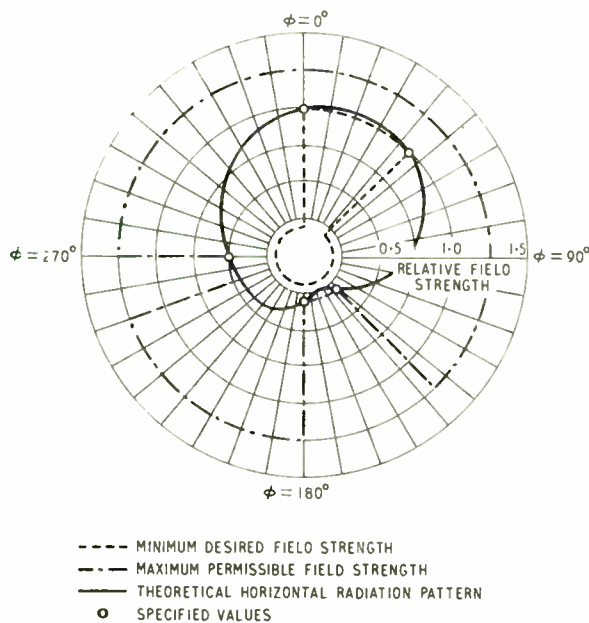
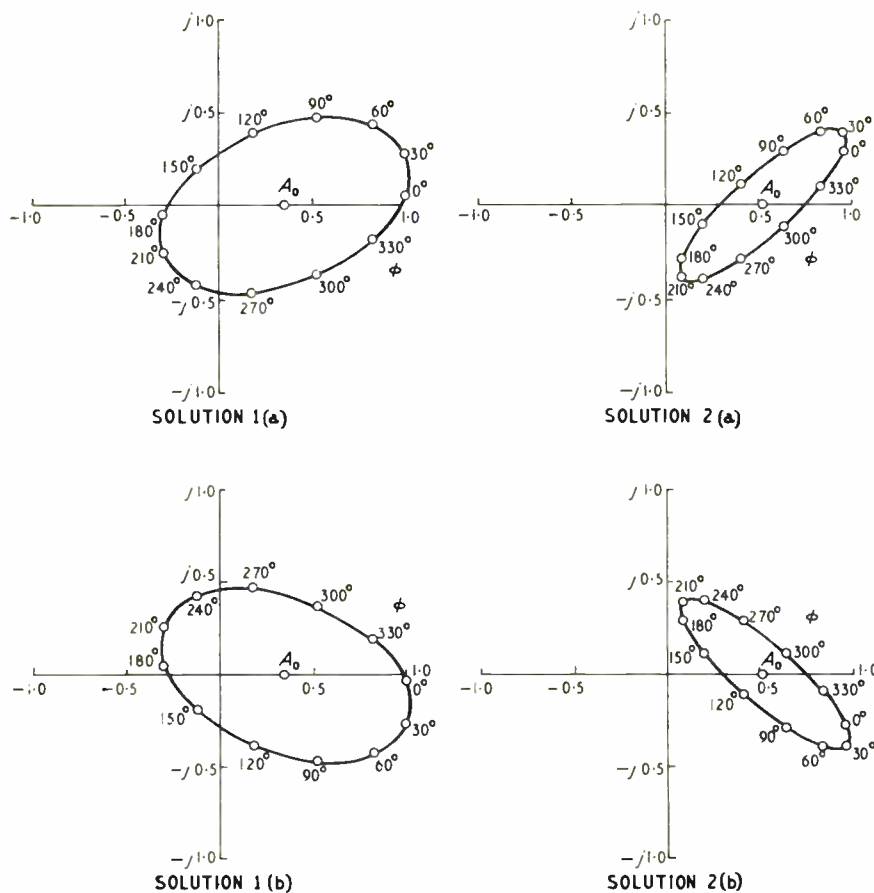

Fig. 2. Radiation pattern satisfying prescribed templet
Fig. 3. Horizontal radiation patterns in complex form
A templet typical of those prescribed for Band I television transmitting aerials is shown in Fig. 2; the radiation pattern of the aerial is required to lie between the two closed curves.
These coefficients satisfy the conditions for which a solution can be found (as stated in the Appendix) and give the radiation pattern shown in Fig. 2.
It is of interest at this stage to calculate the radiation patterns, in complex form, from equation (6). When plotted on the complex plane they appear as ellipses, as shown in Fig. 3. It will be seen that the amplitudes of all four radiation patterns are identical and correspond to Fig. 2. The two patterns corresponding to a particular value of A_0 differ only in that their imaginary values are of opposite sign, but the two values of A_0 give quite different ellipses; it will be noted that the origin is inside the ellipse in one case and outside it in the other.
bution is the sum of the currents or voltages with which the three basic ring aerials must be driven in order to give the radiation pattern shown in Fig. 2; they may therefore be regarded as cylindrical aperture distributions. Thus a ring aerial consisting of an infinite number of elements driven according to one of these distributions will have a radiation pattern which is identical with that shown in Fig. 2.
The use of a finite number of elements means that the resulting pattern will deviate from that shown in Fig. 2. To illustrate the accuracy with which the idealized pattern may be reproduced, a number of patterns for different numbers of elements fed with currents corresponding to their actual positions (rather than values averaged over a sector) were calculated on an analogue computer;¹ the results are shown in Fig. 5. It will be seen that the agreement obtained with the use of eight elements is good, with six it is reasonable but with four it is rather poor. The number of elements which must be used to obtain good agreement depends on the ring radius and with a larger ring more elements will be required.